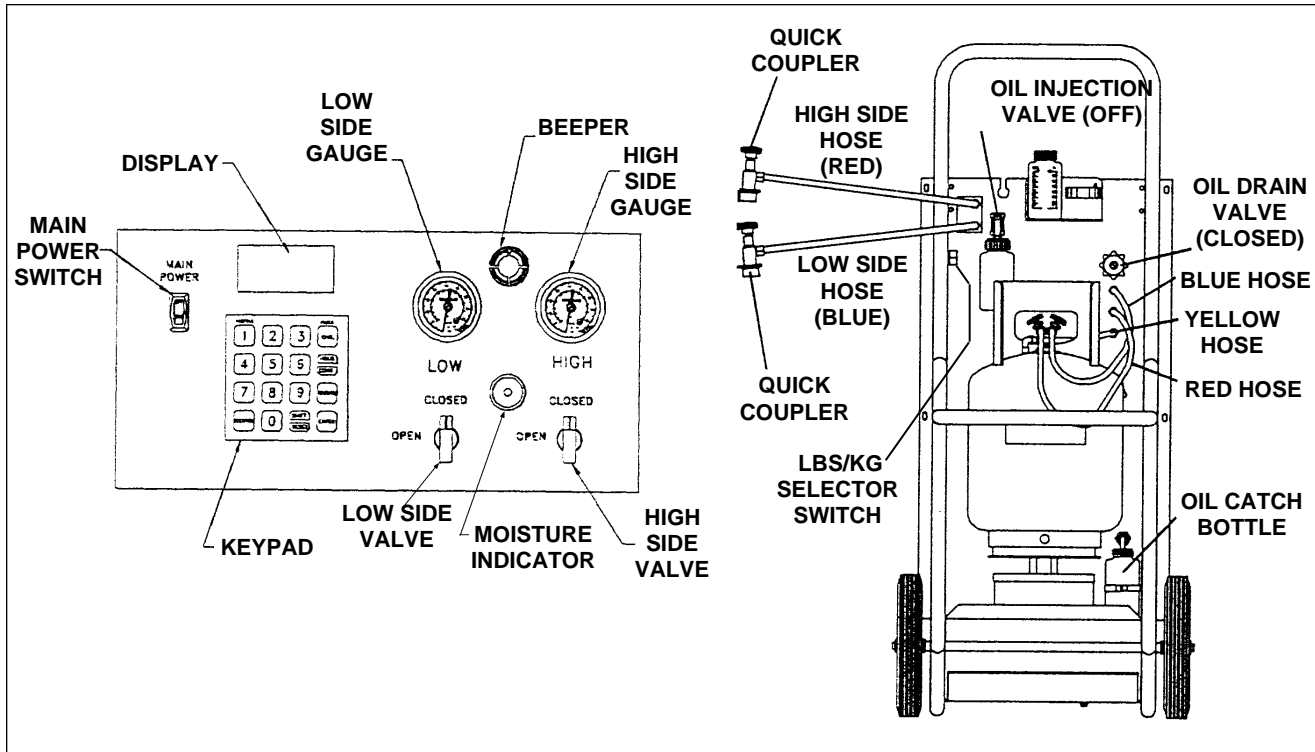
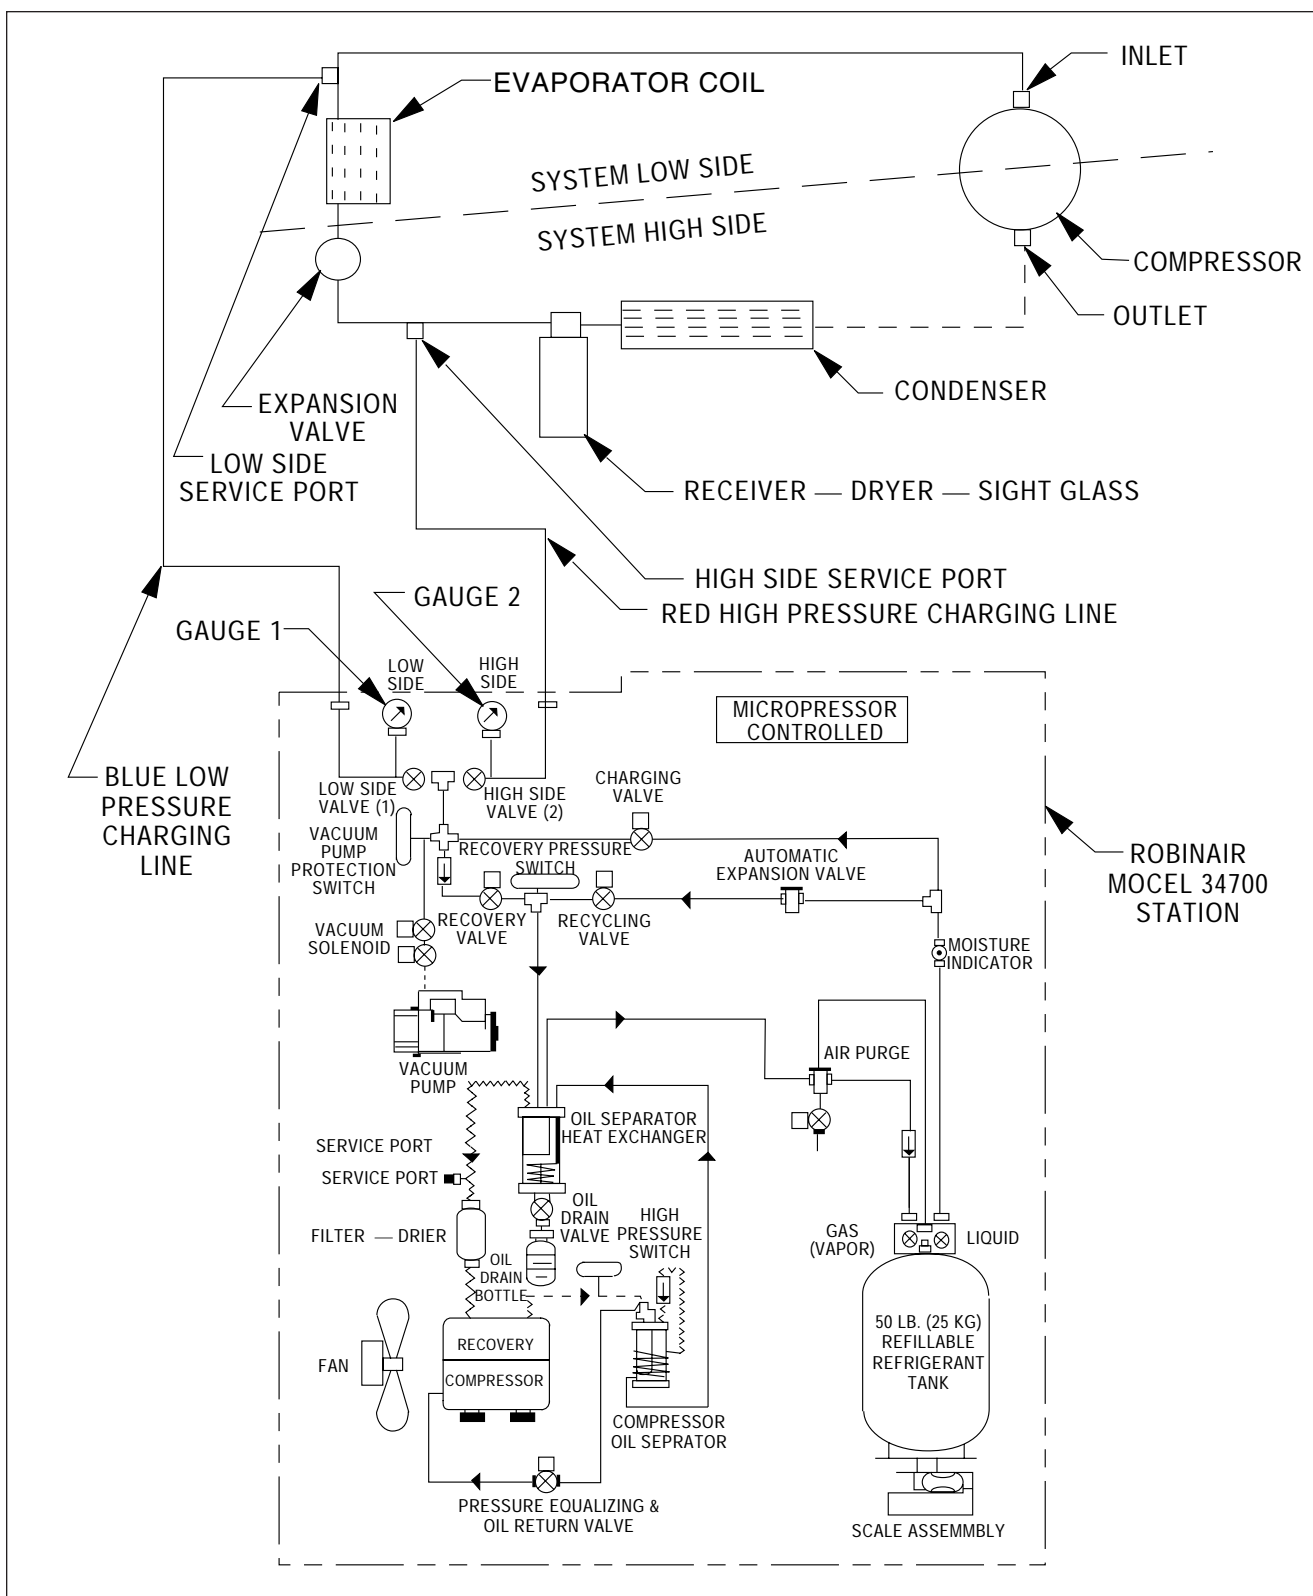

Figure 14-6. Robinair 34700 Control Panel and Hose Connections
Figure 14-7. Robinair 34700 Hose Hookup
- a. Using the Robinair 34700 (Refer to Figures 14-6 and 14-7)
3. Close both the low side and high side valves on charging unit. Refer to Figure 14-6
4. Connect the blue and red hoses to the service ports as shown in Figure 14-7. On systems equipped with quick disconnect connections, open coupler valves
5. Open blue (low side) valve (1) on unit's control panel
6. Open both the red GAS (vapor) valve and the blue LIQUID valve on the **tank**. (Refer to Figure 14-6.)
2. Open the **high** side (2) valve and allow 1/2 pound of refrigerant to enter the system. Close **high** (2) side valve. (Refer to Figures 14-6 and 14-7.)
14-12. DISCHARGING (BLEEDING OR PURGING) SYSTEM. (Refer to Figure 14-6.)